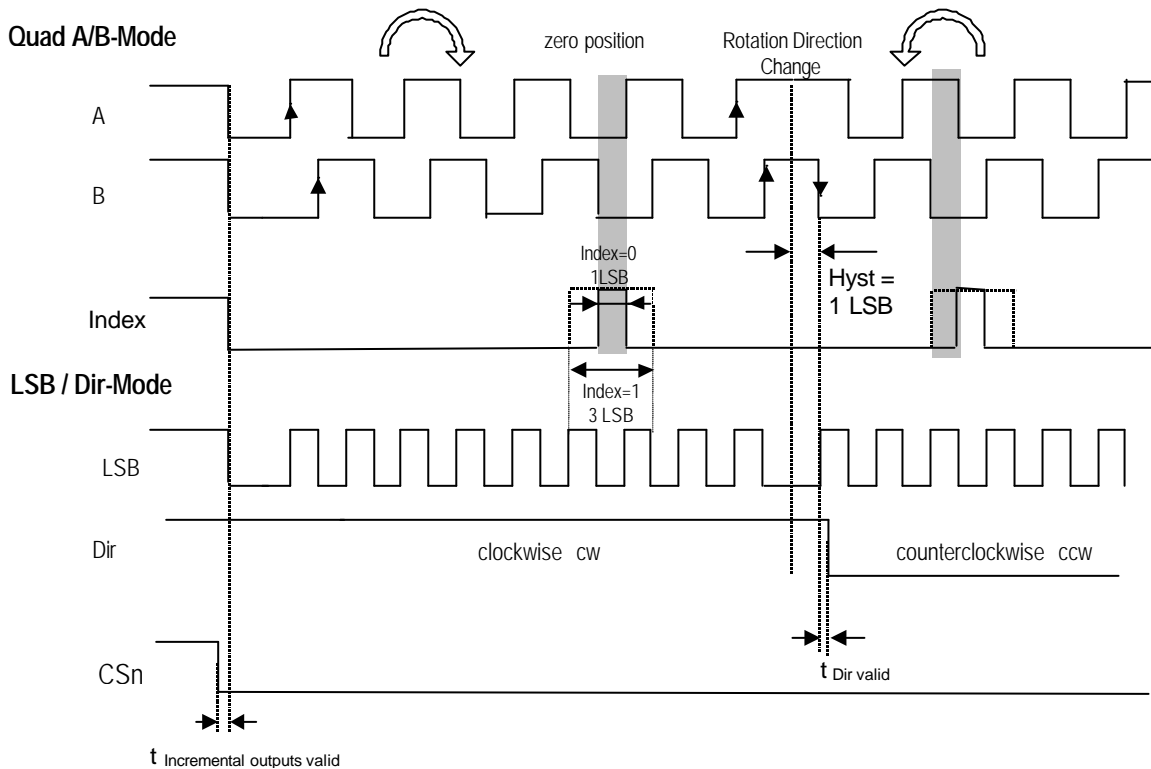

Figure 6 Incremental Output Modes
Figure 6 shows the two-channel quadrature as well as the single channel incremental signal (LSB) and the direction bit in clockwise (CW) and counter-clockwise (CCW) direction.